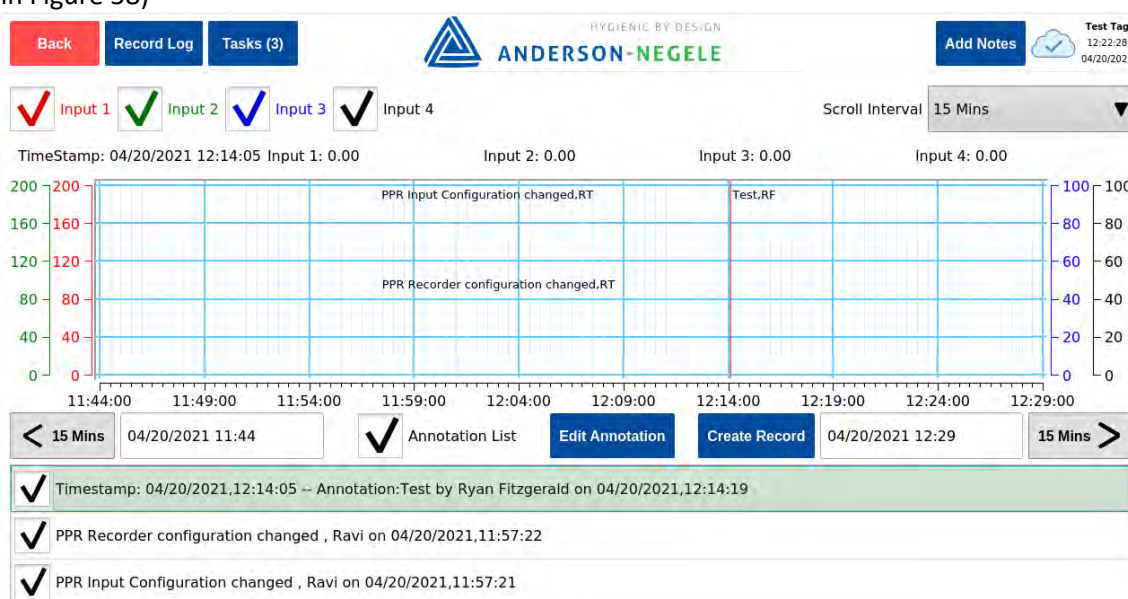

Figure 58: Edit Annotation Workflow
2. Select the *Annotation List* check box to ensure the Annotation List is displayed (shown in Figure 58)
3. Select the annotation that needs to be edited. When the annotation is selected it will be highlighted in the list as shown in Figure 58